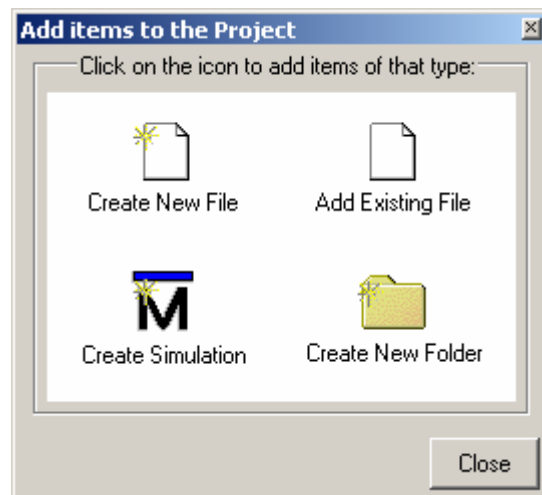

Figure 3: “Add items to the Project” dialog
3. After hitting OK, an **Add items to the Project** dialog pops out (See Figure 3).